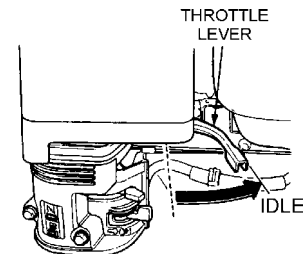

Figure 15. Throttle Lever (Idle)
1. Move the throttle lever to the **IDLE** position (See Figure 15) and run the engine for three minutes at low speed.